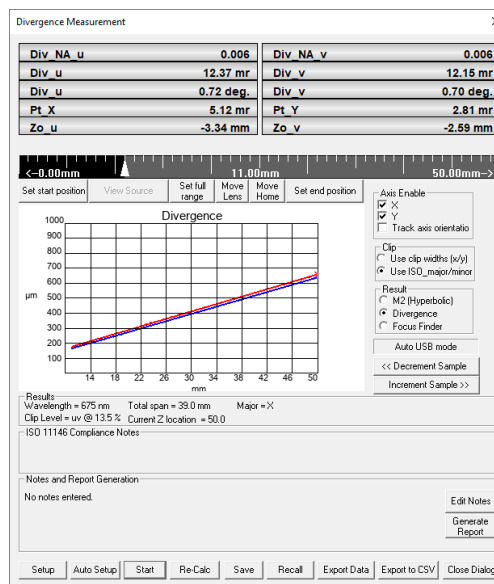

Fig. C.17: The M2 Measurement dialog box changes to the Divergence Measurement dialog box when the Divergence option is chosen instead of M2.
- On the **M2 Measurement** dialog box —within the **Result** options— choose **Divergence** instead of **M2 (Hyperbolic)**. The dialog box will update for divergence measurements (Fig. C.17) and the fit will change from hyperbolic (for M^2 measurements around the beam waist) to linear (for divergence measurements outside the beam waist in the linear expansion region).
- At the conclusion of the scan, the software performs a linear fit to the data to calculate the final results as shown in Fig. C.17.